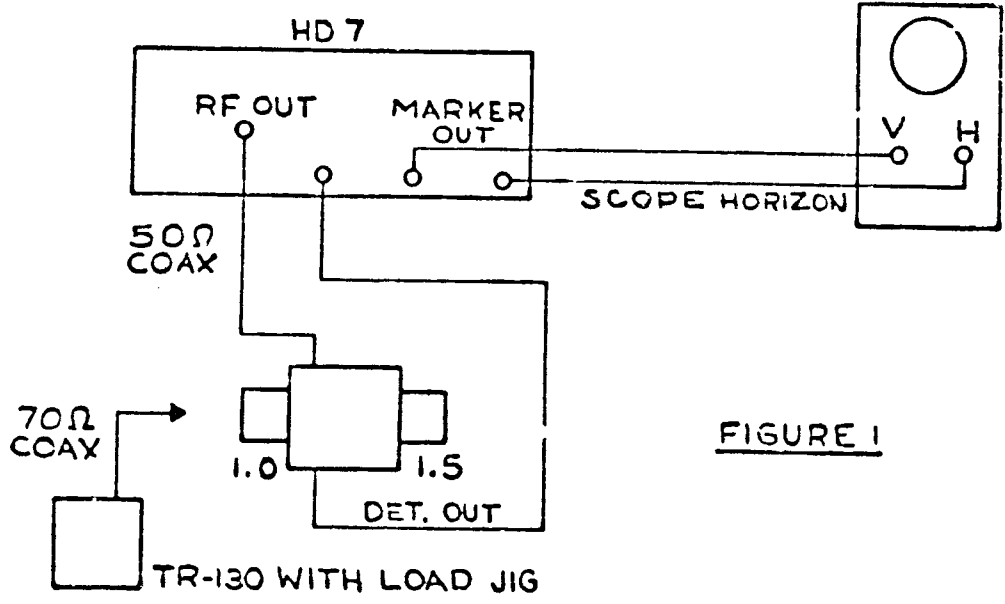

FIGURE 1
- (1) Calibration. Set up equipment as shown in Figure 1.
- (2) With a 1.0 and a 1.5 load on the VSWR bridge calibrate the scope for a convenient deflection (1 cm is suggested). Sweep should be continuous from 2 to 30 megs.
- (3) Replace the 1.0 load with a UHF to EMC connector. Using a short length of 70 ohm coax connect the bridge to the input of the TR-130.
- (4) Record the maximum VSWR on test data sheet for both 200 and 600 ohm tests.
- (5) Maximum VSWR should be 1.5 to 1.